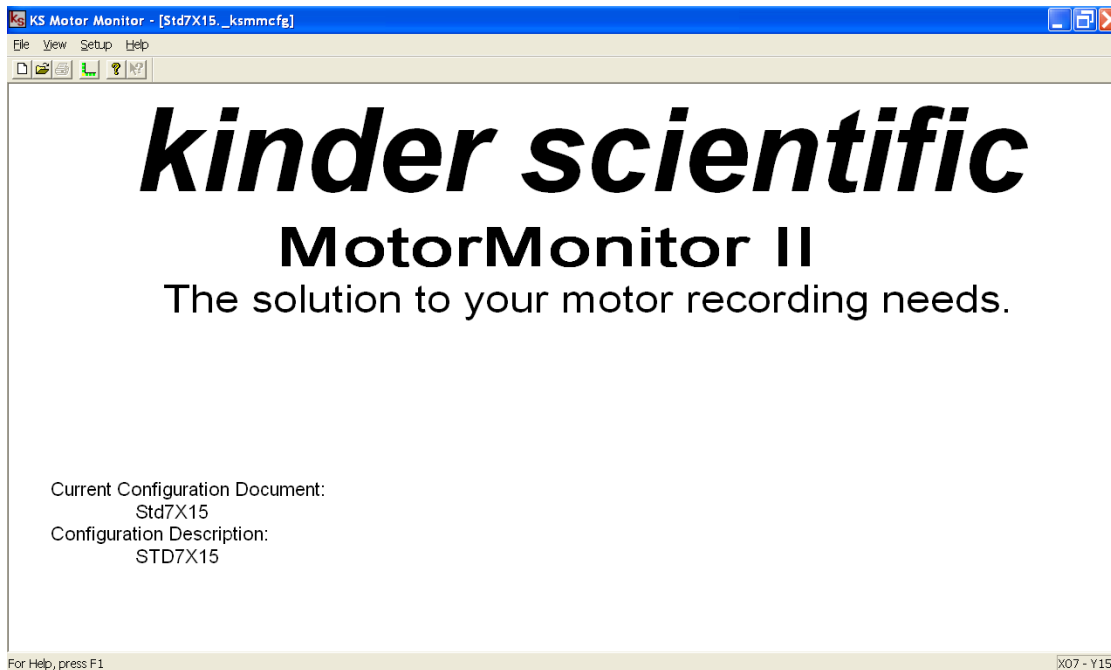

Figure 2-1. MotorMonitor Start Up Screen
1. Turn on the PC and open the MotorMonitor program. A screen similar to the one shown in Figure 2-1 will appear.